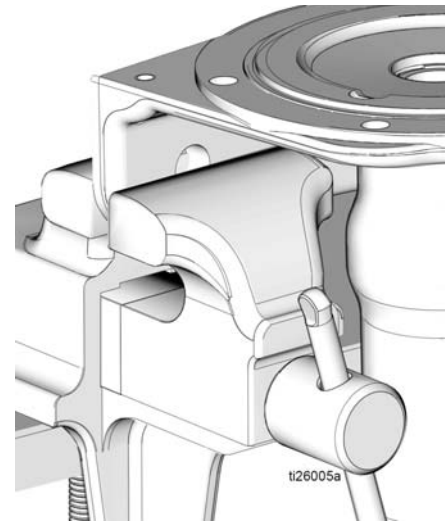

FIG. 24
- 17. Reposition the pump base (1) in the vise as shown in FIG. 24.